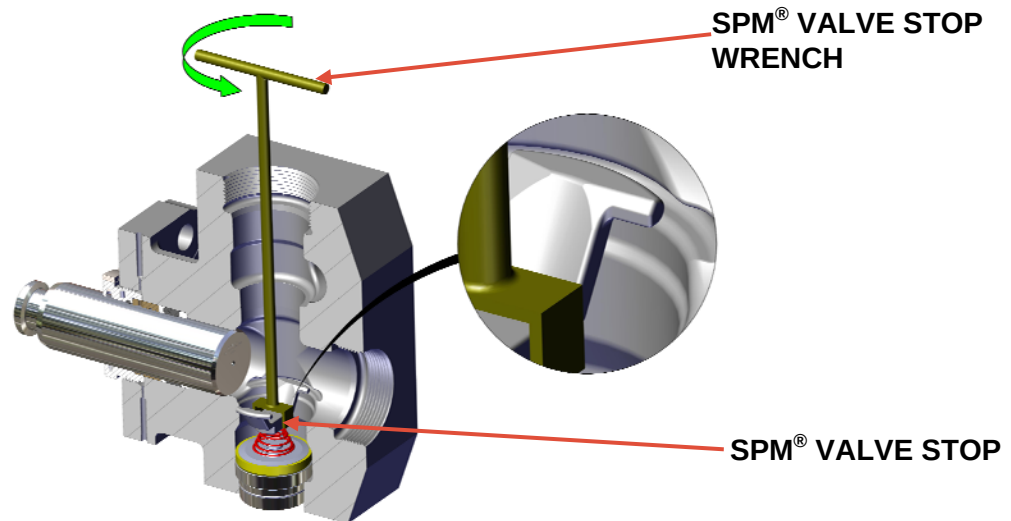

Figure 6
2. Insert valve stop and turn valve stop approximately 90 degrees. Ensure that it is properly seated in the grooves in the cylinder and that it is turned perpendicular to the plunger. (Fig. 6)